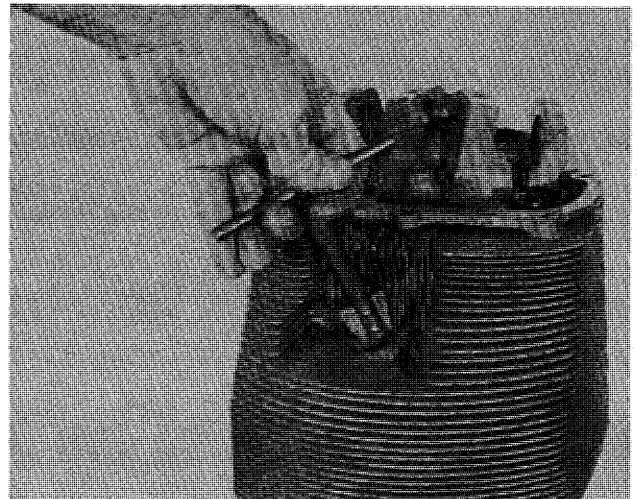
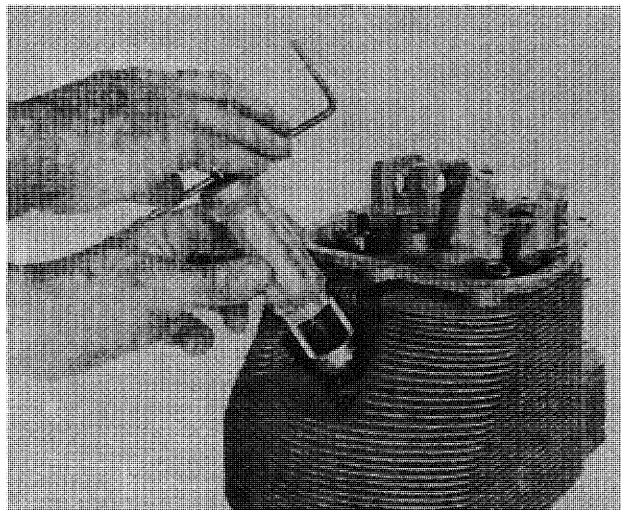

FIGURE 5-3. REMOVING SPARK PLUG HOLE HELICAL INSERT.
FIGURE 5-4. INSTALLING SPARK PLUG HOLE HELICAL INSERT.
**5-24. SPARK PLUG HOLE HELICAL COIL INSERTS.** Before attempting to back out a damaged insert, use a sharp pointed tool to pry the teeth at outer end away from the cylinder head metal. Tap a helical coil extracting tool into the insert until it has a good bite (See Figure 5-3). Place a new helical coil in the cut-out side of the installing tool sleeve with its driving tang toward the threaded end. Engage the tang with the slotted end of the driving mandrel and wind the insert into the sleeve thread, thus compressing it. Hold the sleeve so that the helical coil can be seen through the slot in the threaded end, and turn the mandrel crank until the insert starts into the cylinder head hole. If the sleeve is then not in contact with the head surface, grip sleeve and mandrel and turn until the sleeve touches lightly (See Figure 5-4). Wind the helical coil into the cylinder head until its toothed end lies just within the first full thread. The teeth should be in position to enter the depressions made by the original insert. If driven too far, the insert will emerge in the combustion chamber and will have to be wound